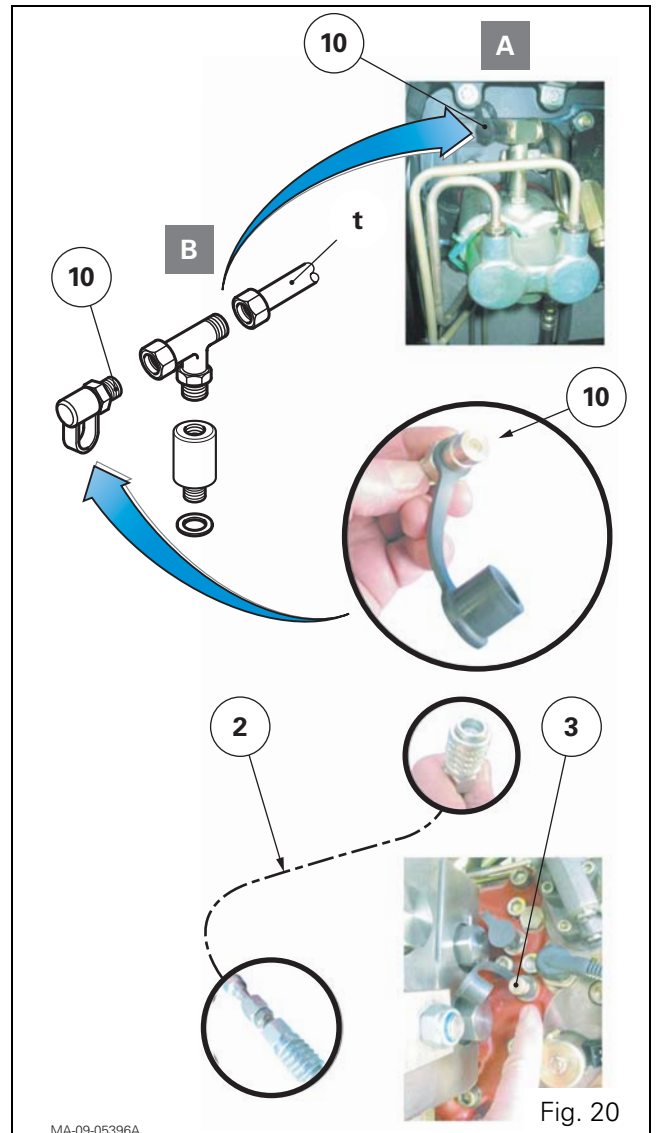

Fig. 20
IMPORTANT: A male connector (3) fitted as standard on the charge and lubrication line (5 bar) of the right-hand hydraulic cover plate and the male connector (10) fitted as standard on the brake master cylinders with oil tank (B) or without oil tank (A) (Fig. 20) must be used to facilitate the bleeding under pressure of the brake system.
- one end is fitted with a female connector suitable for attachment to the male connector (10) (bleed assistance) of the brake master cylinders (Fig. 20)
- the other end is fitted with a female connector suitable for attachment to the male connector (3) (5 bar lubrication and charge) of the right-hand hydraulic cover plate (Fig. 20).
- IMPORTANT:** If the structure of the pipe/hose assembly is too rigid, disconnect it by unscrewing just the pipe (t) connected to the connector (10) via the T connector (Fig. 20). Temporarily screw a locally obtained plug onto each disconnected section.